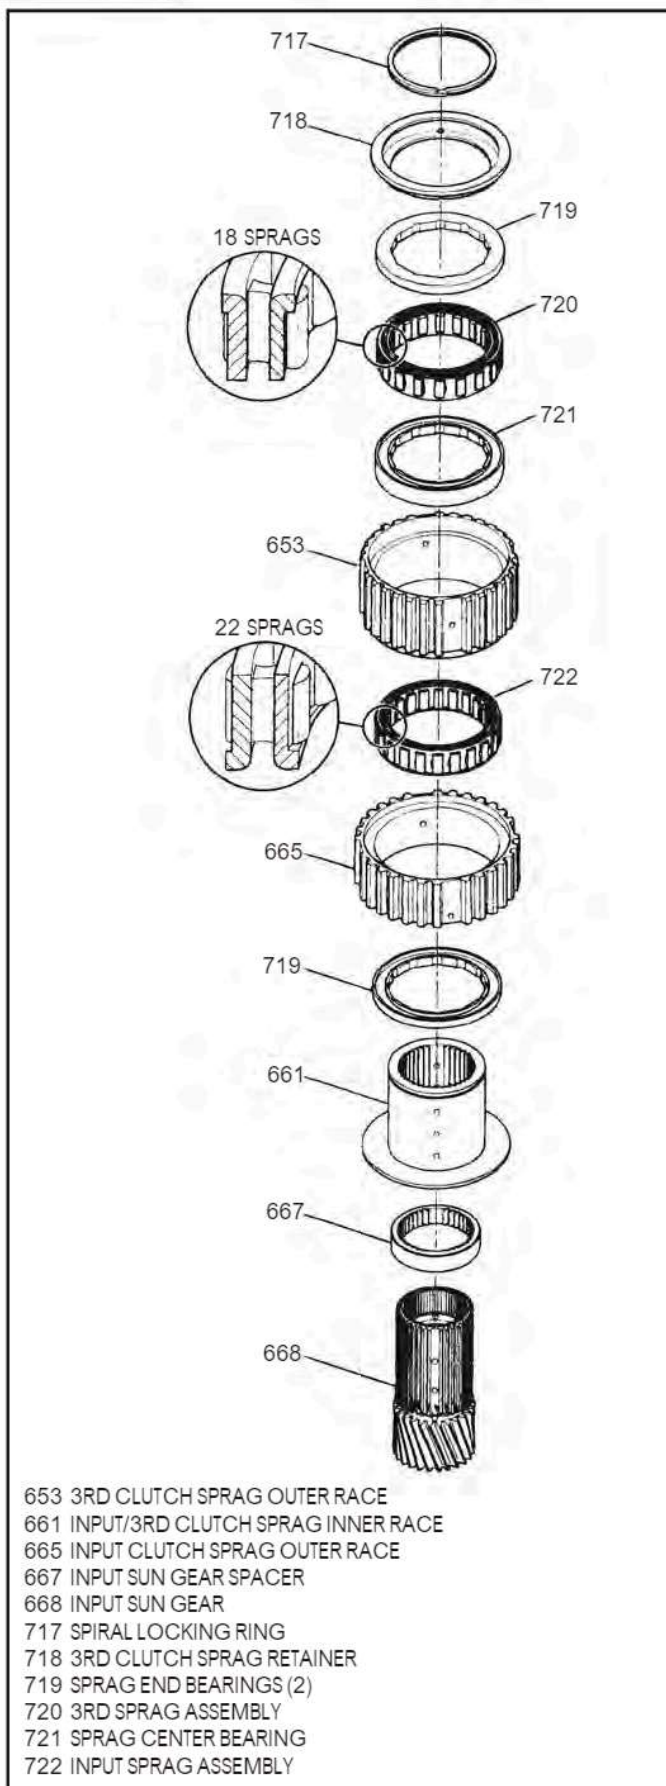

Figure 96
1. Thoroughly clean and inspect all of the sprag parts illustrated in Figure 96.
2. Remove and discard the spiral retaining ring (717) shown in Figure 96. This spiral retaining ring should never be reused, always replace the ring with a new one.